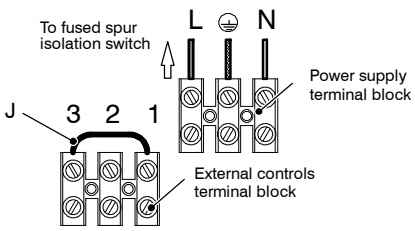

Fig. 6.12
- 6 Connect the electrical supply flexible cord coming from the fused spur isolation switch to the power supply terminal block of the boiler (Fig. 6.12) keeping the same connections for the live (brown wire) and the neutral (blue wire). External 3 A fuse or fused plug with same current rating is recommended.
**When connecting any type of external control, the link J in Fig. 6.12 must be removed.**